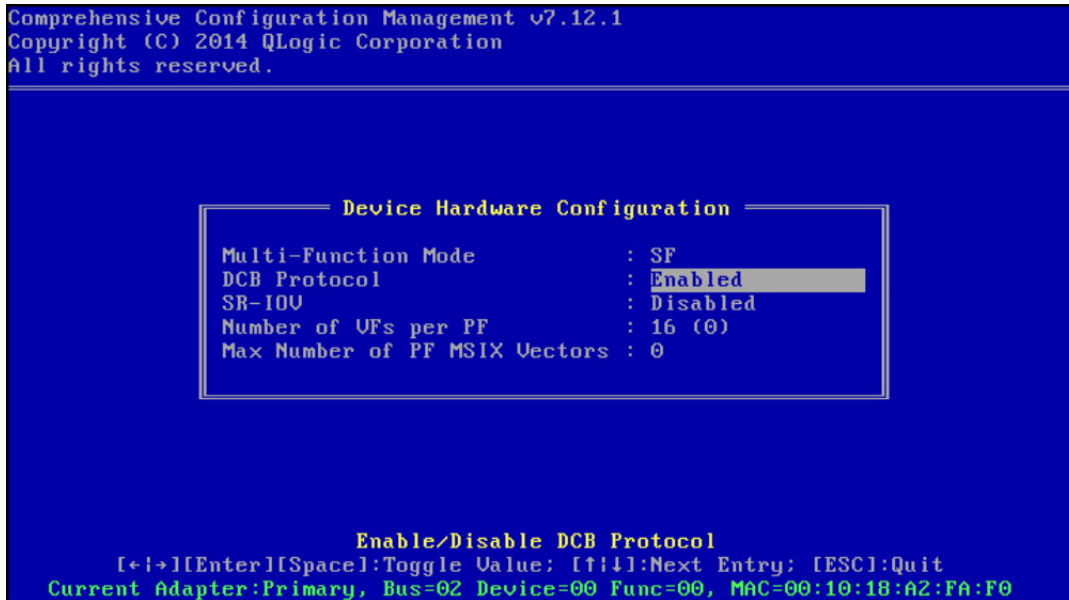

Figure 13-3. CCM Device Hardware Configuration
3. Ensure that DCB and DCBX are enabled on the device (Figure 13-3). FCoE boot is only supported on DCBX-capable configurations. As such, DCB and DCBX must be enabled, and the directly attached link peer must also be DCBX-capable with parameters that allow for full DCBX synchronization.